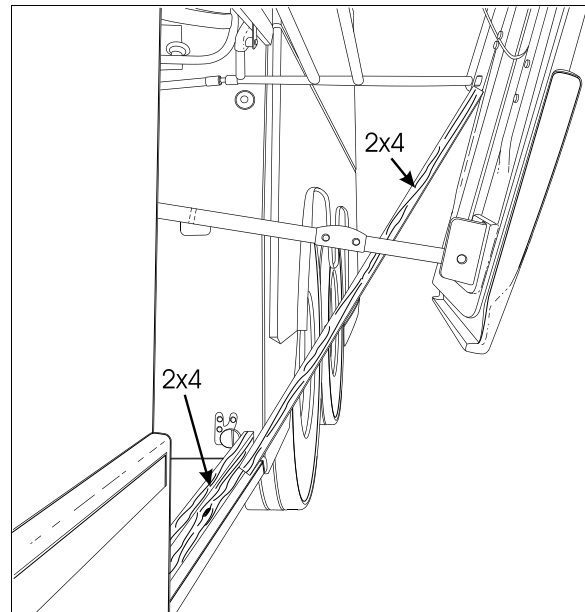

FIGURE 58: PANTOGRAPH ADJUSTMENT
3. Install another piece of 2x4 between the first piece and the bottom of the pivot of the lowest (or shortest) pantograph arm, (Figure 58).